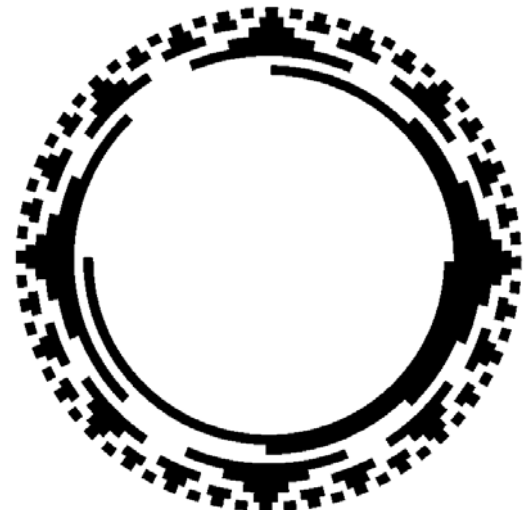

Figure 1: 256 position gray code disk
A conventional absolute encoder uses a code disk containing the binary code words for each segment (see figure 1). The code disk uses a cyclic binary code known as gray code (GC) that is precisely imprinted as opaque and transparent segments on concentric tracks, one track per bit of resolution. A radial line of photo-sensors (8 sensors for the 8-bit example) are used to read the disk pattern and directly outputs the code word. Gray code is used because only one bit value changes as the shaft moves from one position to the next. This eliminates problems of ambiguous outputs if there were multiple bits changing simultaneously.